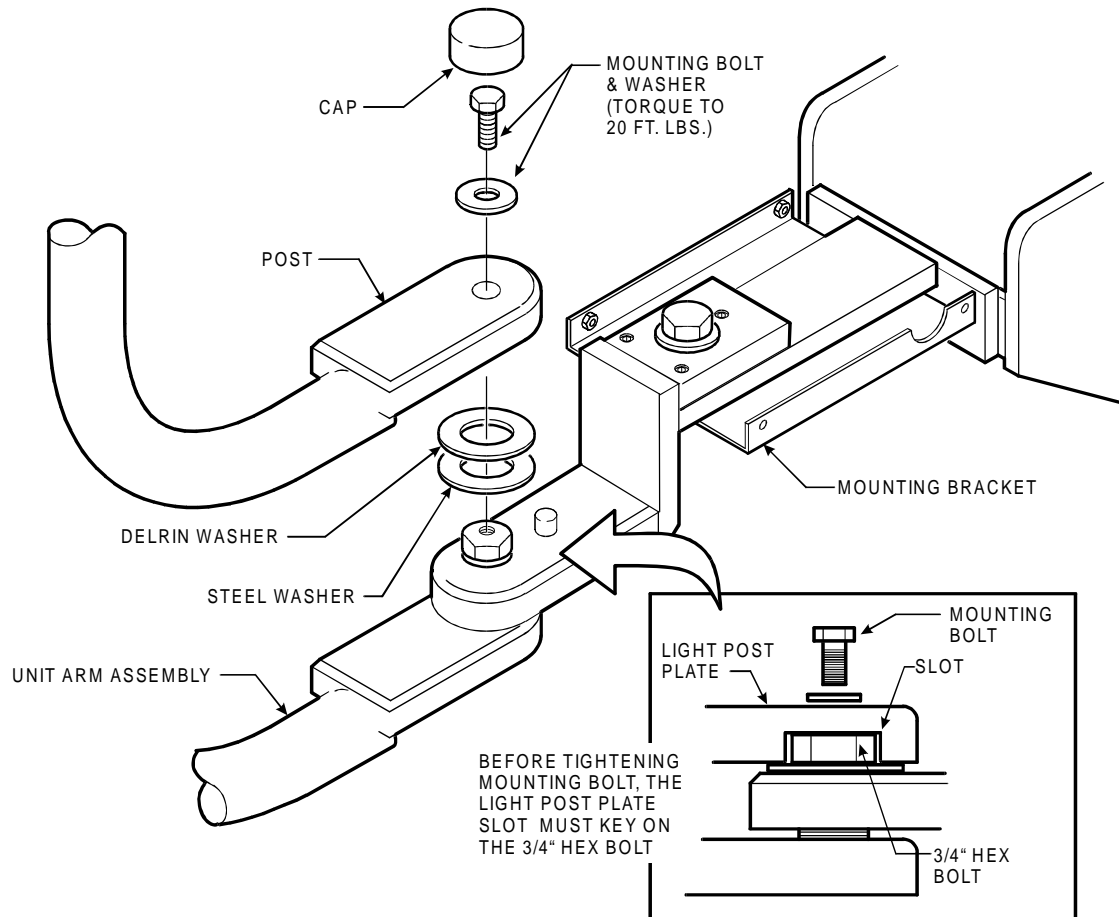

Figure 1
2. Position the post on the unit arm assembly with the steel washer and delrin washer as shown. Make sure the large bolt is all the way in the slot that is located on the underside of the post (See Figure 1).